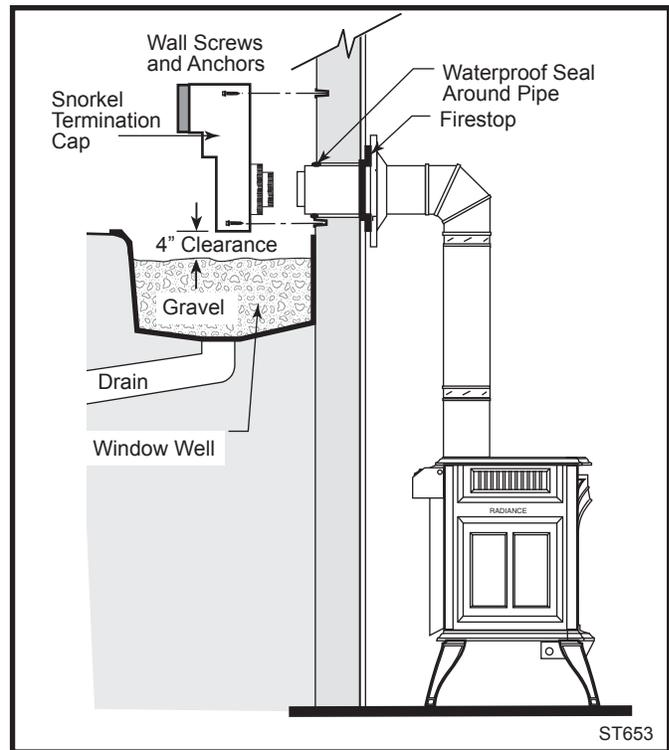

Fig. 31 Snorkel kit installation.
Install Snorkel Kit #7FSDVSKS when it is not possible to meet the required vent termination clearances of 12" (305 mm) above grade level. The snorkel kit will allow installation depth of down to 7" (178 mm) below grade level. The seven inches is measured from the center of the horizontal vent pipe as it penetrates the wall. **If the venting system is installed below grade, a window well must be installed with adequate and proper drainage.** (Fig. 31)
2. Remove soil to a depth of approximately 16" (406 mm) below the base of the snorkel. Install a window well (not supplied). Refill the hole with 12" (305 mm) of coarse gravel and maintain a clearance of at least 4" (102 mm) below the snorkel. (Fig. 31)
If the foundation is recessed, use extension brackets (not supplied) to fasten the lower portion of the snorkel. Fasten the brackets to the wall first, and then fasten to the snorkel with self-tapping #8 x 1/2" sheet metal screws. Extend the vent pipes out as far as the protruding wall face. (Fig. 31)